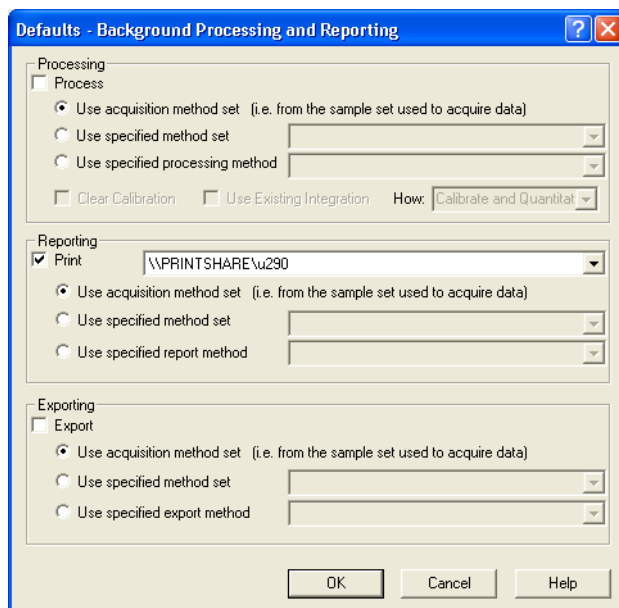

Figure 4-38 Background Processing and Reporting Dialog Box
5. Click  (**Print**). The Background Processing and Reporting dialog box appears (Figure 4-38).